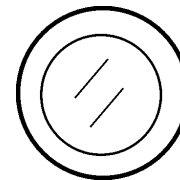

Figure 39. Pre-Heat Button
3. Depending on the temperature of the coolant (cold weather conditions), the pre-heat lamp (Figure 39) will light (ON) and remain on until the pre-heating cycle has been completed. After completion of the pre-heating cycle, the light will go OFF and the engine will start up automatically.